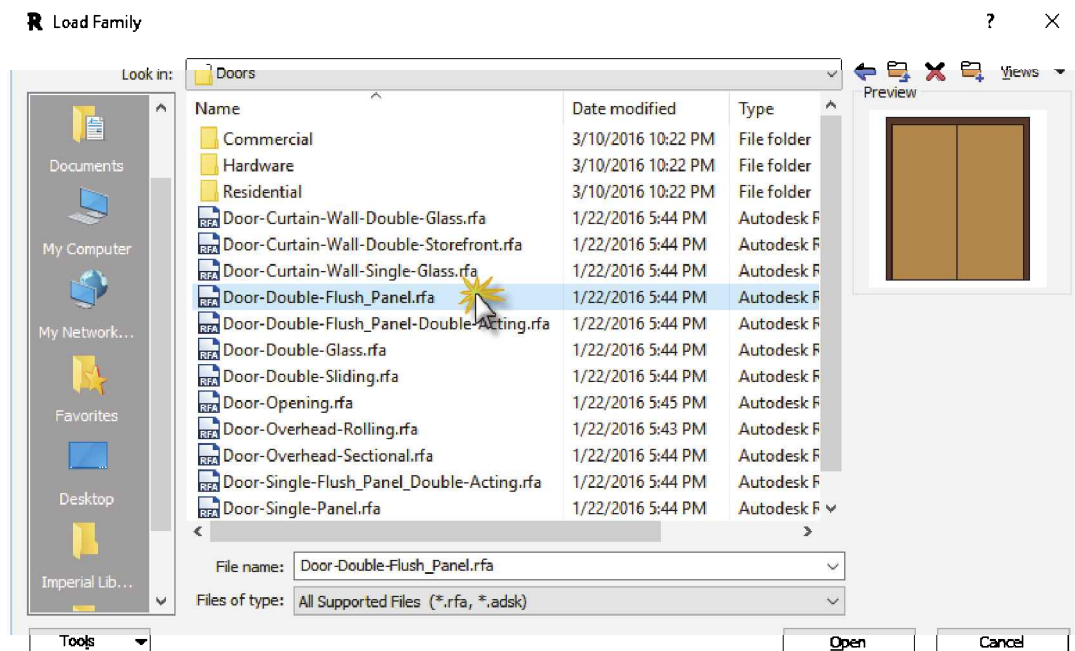

FIGURE 5-4.4 Door Families on hard drive
Browse through the **Doors** folder for a moment (Fig. 5-4.4). The **Doors** folder is a sub-folder of the *US Imperial* library; Revit should have taken you there by default. If not you can browse to C:\ProgramData\Autodesk\RVT 2017\Libraries\US Imperial\Doors
3. Select **Door-Double-Flush_Panel.rfa**, and then click **Open** (Figure 5-4.4).